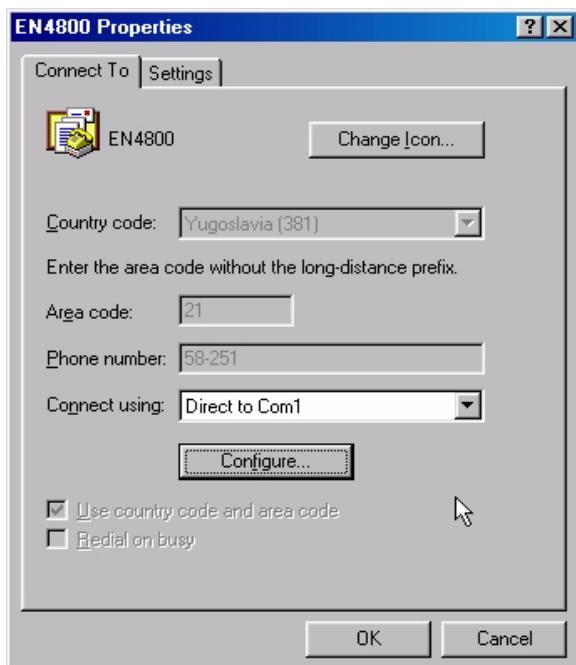
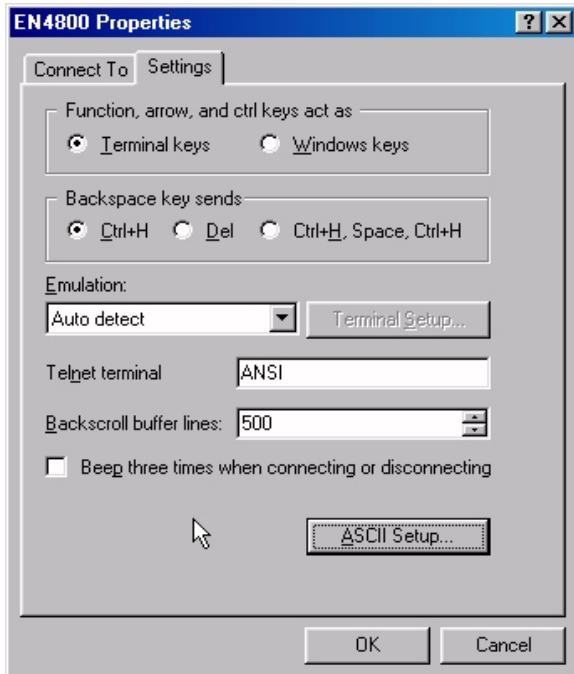

Figure 3-3. Serial COM port selection
Figure 3-5. COM port settings
2. Select serial communication port; COM1 is selected in the example, shown in Figure 3-3.
4. Click on the Settings tab (from Figure 3-3 or select Properties and then click on Settings) and adjust ASCII settings as shown in Figures 3-5 and 3-6.